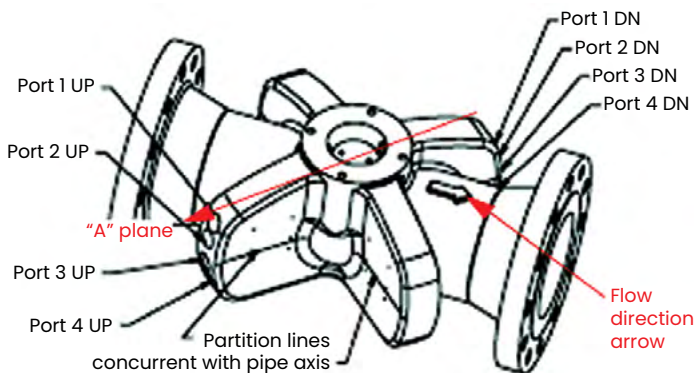
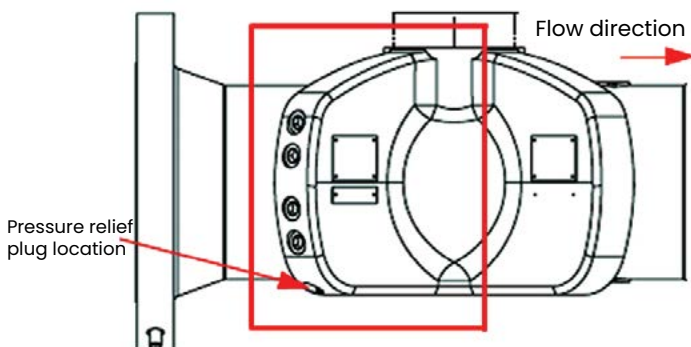

Figure 90: Upstream “A” plane sensor quadrant – top view
Figure 91: Upstream “A” plane sensor Quadrant – side view
To relieve the system pressure, see *Figure 90* below and *Figure 91* below to complete the following steps:
2. Relieve potential pressure build-up by loosening the *pressure relief plug* on the bottom of the upstream “A” plane sensor quadrant (see *Figure 91* above), using a 10 mm hex drive socket or wrench. Slowly loosen the pressure relief plug 2-3 full turns or until the plug bottoms out on the built-in safety stop.